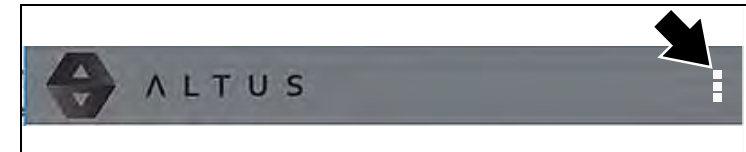

Figure 15-19
1. From Shop Files, select the **Menu** icon (Figure 15-19) from the upper toolbar.